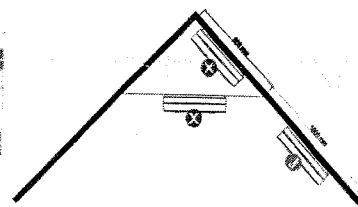

Figure 2
7. When the wall or ceiling is slanting, the alarm needs to be installed min 500mm away from the highest wall or ceiling point in the room (see the figure 2).